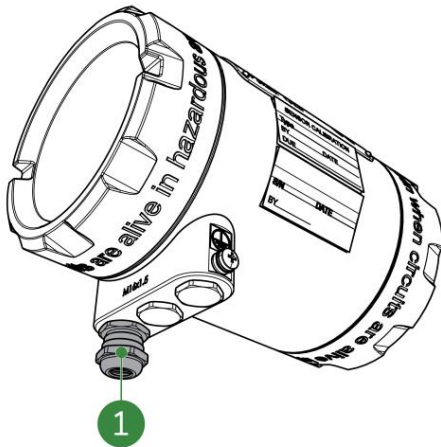

Figure 5-28: Cable gland
9. Tighten the cable gland (Figure 5-28, pos. 1) to prevent moisture and dirt entering the SDM.